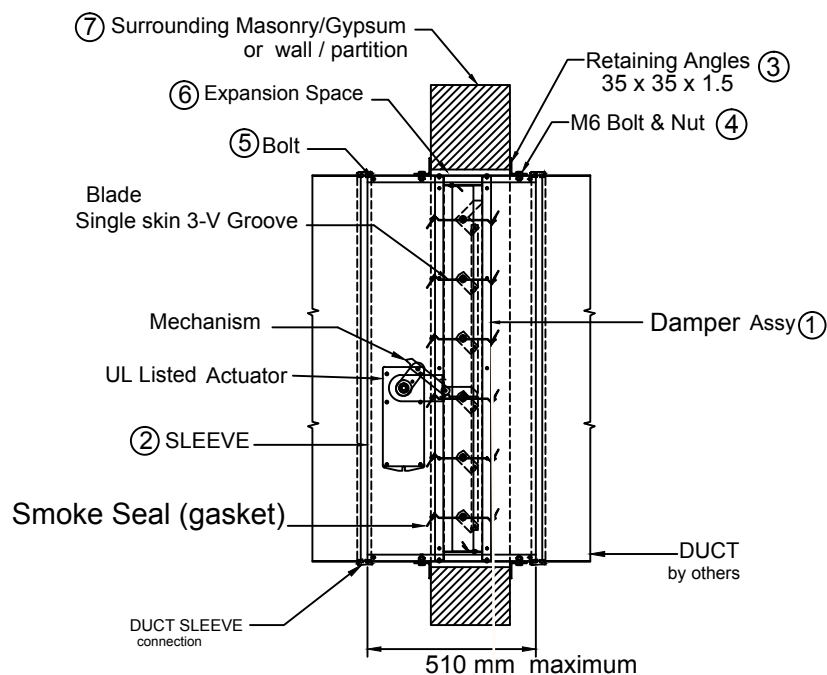

FIGURE 1
- 1) The damper (1) should be installed vertical, centrally and resting on the bottom opening within the surrounding masonry / gypsum wall (7). Actuator should be out of wall / gypsum partition as shown in (figure 1).
- 2) The damper (1) should be installed in a rectangular galvanized steel sleeve (2) with a minimum thickness of 1.1mm. This sleeve should be attached to the damper using M6 bolts (5) and spaced at not more than 110 mm centers and 30 mm from corners.
- 4) The sleeve (2) should be of suitable length to extend through the wall to enable the fitting of the cover angles and ductwork. Minimum of 90 mm from the wall and total depth of the sleeve should not exceed more than 510 mm.
- 5) The retaining angles (3) should be attached to the sleeve by 6 mm dia (4) bolts at a maximum of 110 mm centers, and should form a complete frame around the sleeve and cover over the expansion space (6) required between sleeve and wall opening. The four corner of the retaining angles are not to be welded. The bolts connecting the retaining angles to the sleeve to be 30 mm maximum from the corners. Retaining angles will be send in loose parts.